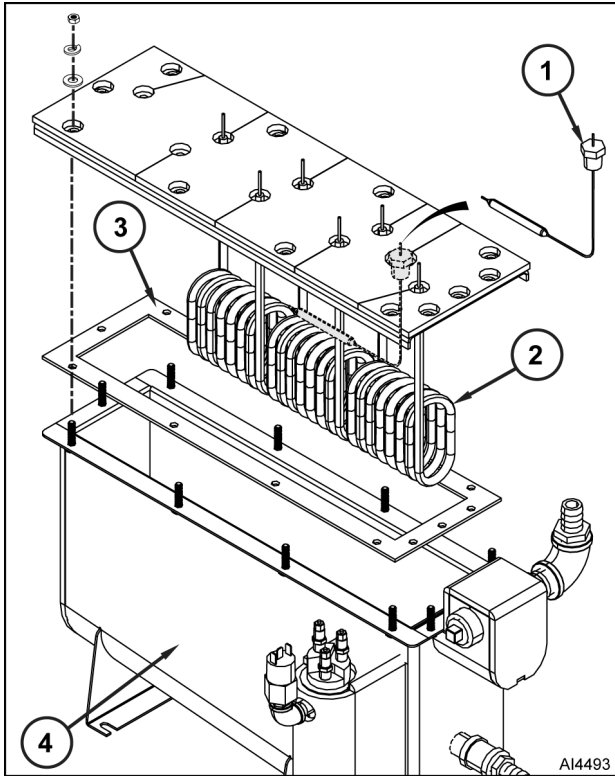

Fig. 25
7. Position high-limit thermostat (1, Fig. 25) capillary tube to facilitate heating element removal. Avoid creating sharp bends or kinks in the capillary tube.
8. Remove nut, lock washers, and flat washers that secure heating element (2) to tank (4).